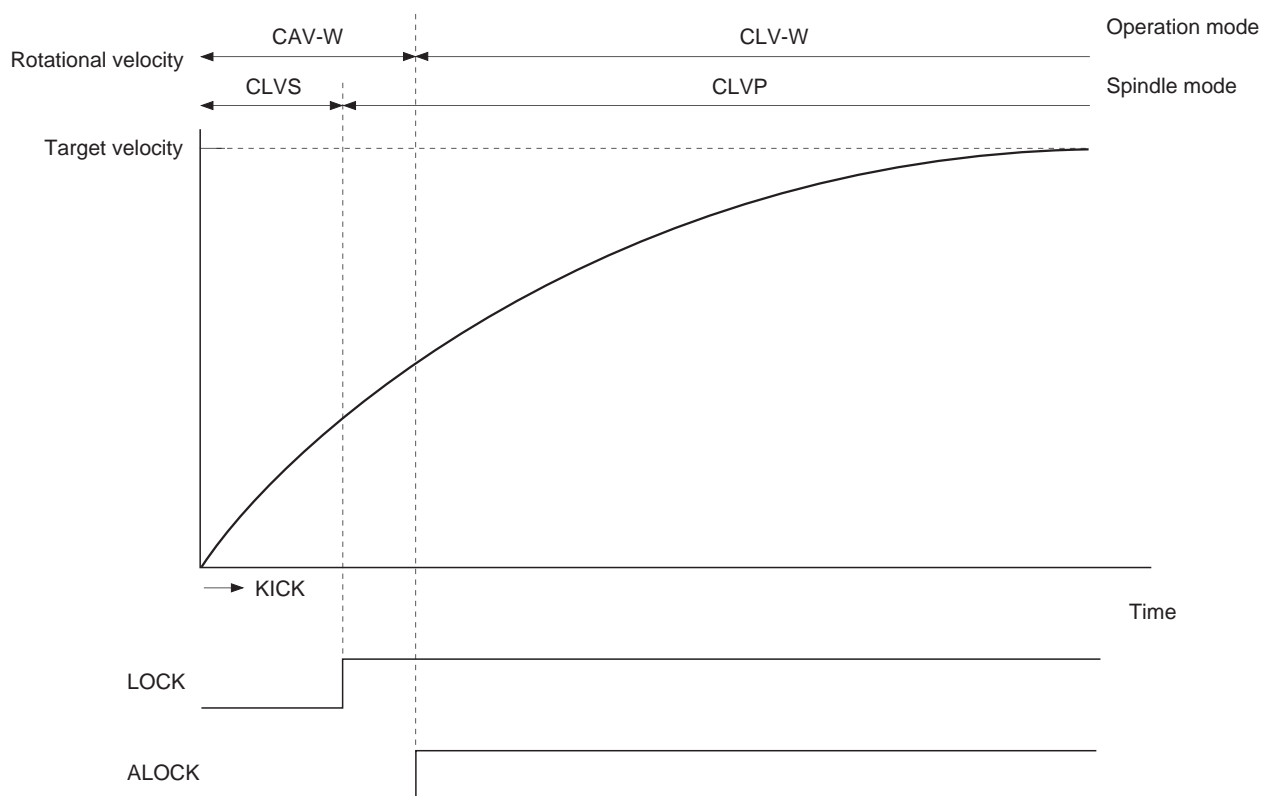

Fig. 3-1. Disc Stop to Normal Condition in CLV-W Mode
*² Figs. 3-1 and 3-2 show the control flow with the microcomputer software in CLV-W mode.